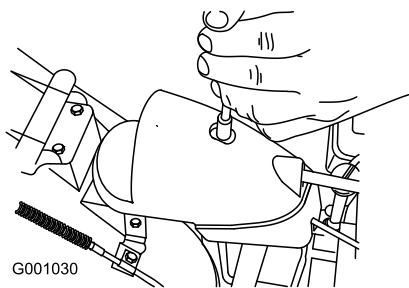

Figure 51
- Remove the fastener on the gear cover (Figure 51), lift the front of the cover up, and slide it back and out of the way.